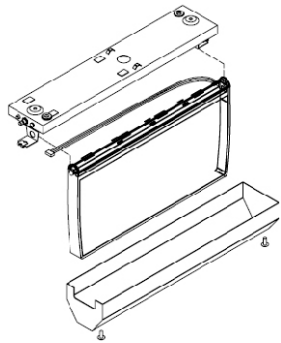
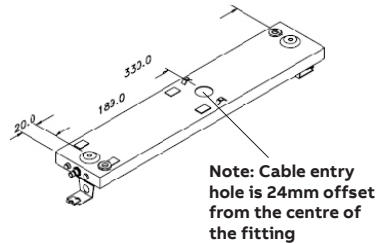

Figure 1a: Showing sequence of components
Figure 1b: Mounting and cable entry hole dimensions
1. The base of the fitting is installed first on the ceiling (refer figure 1a), the mounting and cable entry hole dimensions shown in figure 1b can be used as a template, for the purpose of marking/drilling. The data cable only connects for the Nexus fitting (part number PLSNXSLED/PLSNXSLEDP). Once the base is installed on the ceiling, connect the incoming unswitched active, neutral and earth to terminal marked USA, N and E respectively. Connect the Nexus data cable (only for Nexus fitting).